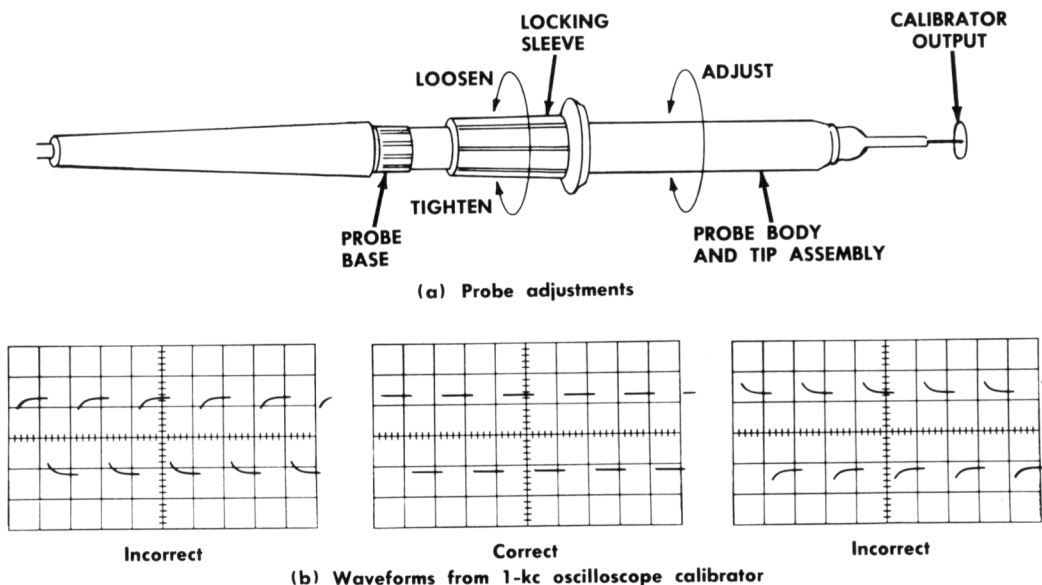

Fig. 2-1. Probe compensation.
2. Hold the probe body and tip assembly and loosen the locking sleeve several turns (see Fig. 2-1).